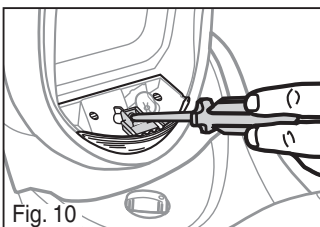

Fig. 10
- 2) Unscrew the lens and remove old bulb. Replace with bulb rated 12v., 10w., Type 904 (Fig. 10).